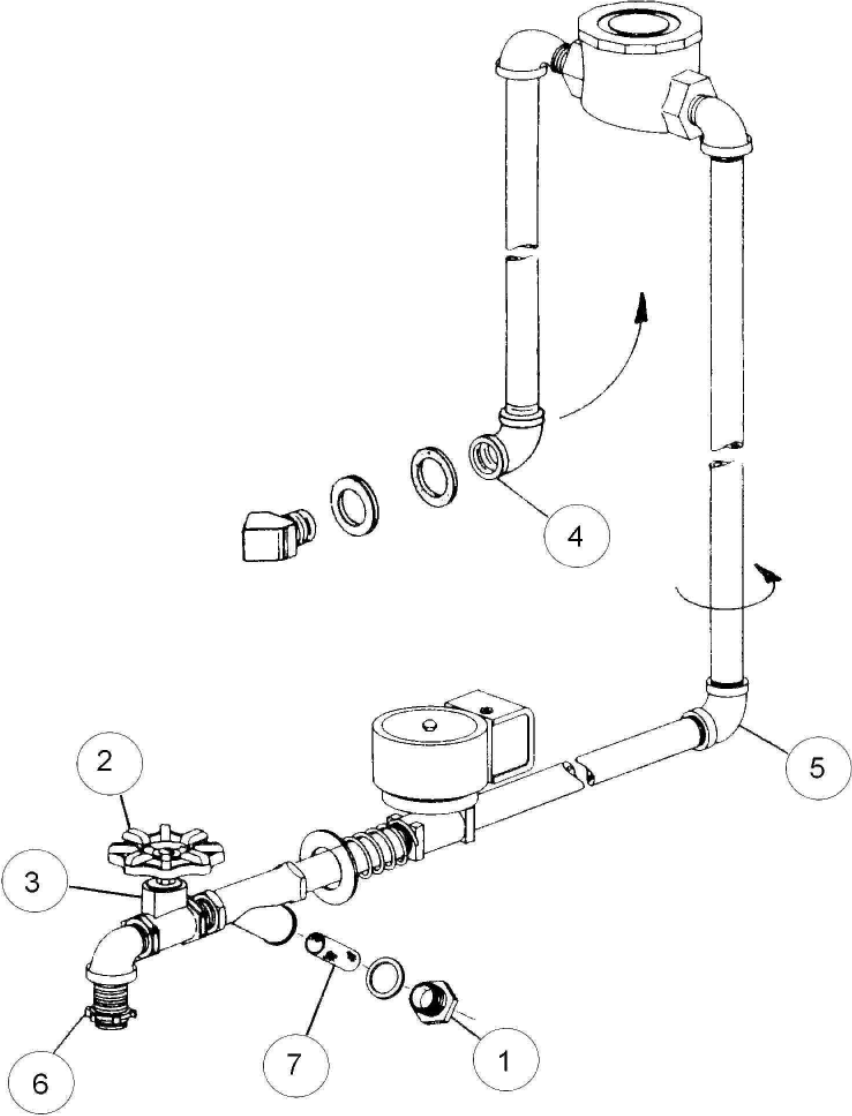

Figure 7.5
(See Figure 7.5)
2. Remove screw (1) and lift off solenoid.
3. Unscrew valve bonnet (2) using spanner or channel-locks. Insure that valve body (3) is held firmly to prevent damage to plumbing.
4. Remove bonnet (2), o-ring (4) and diaphragm (5).
5. Clean screen (6) and valve body.
6. Inspect bleeder holes (7) for plugging and diaphragm for damage.
8. Clean strainer screen (7). (See Figure 7.5)